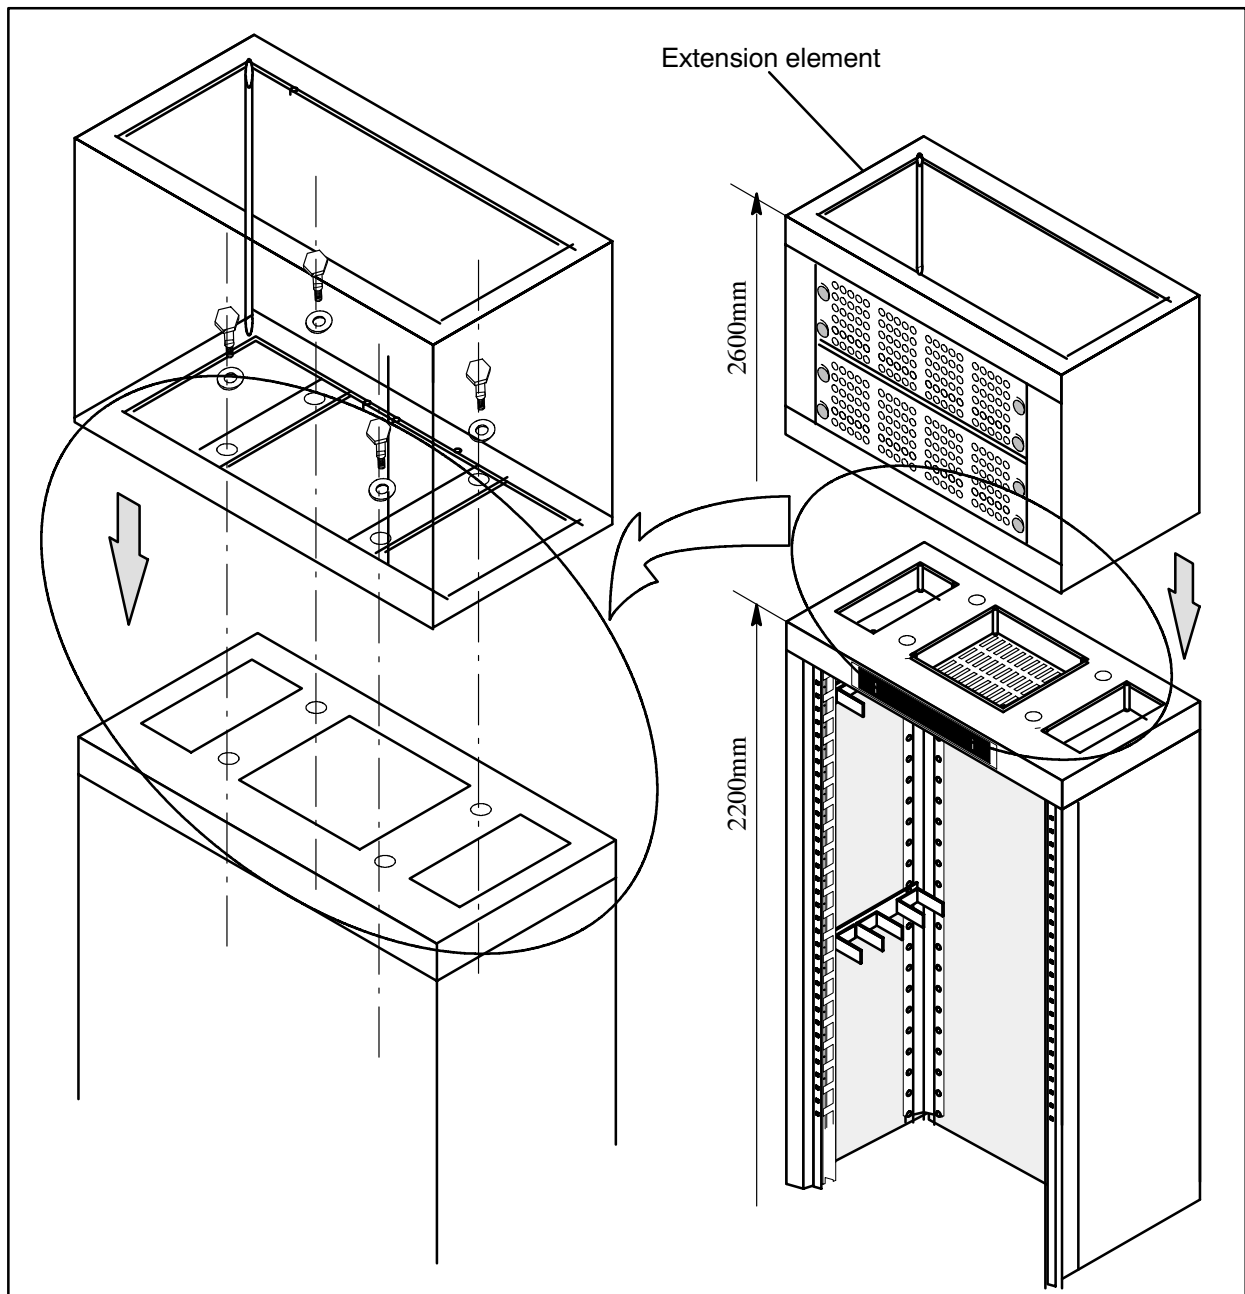

Fig. CC-14 Fastening extension element to rack top
2. Place the extension element on the rack top and using the four screws provided with the element, fasten it in position (Fig. CC-14).